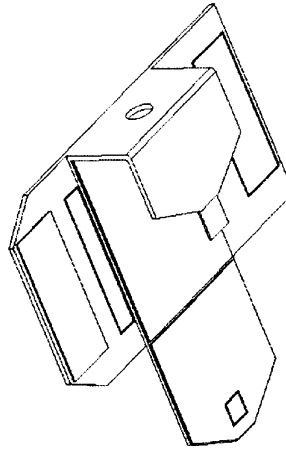
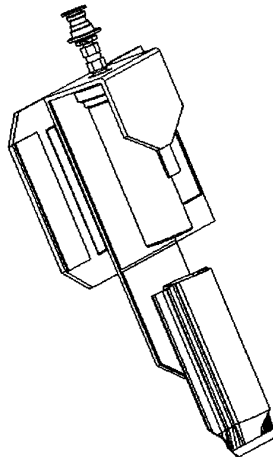

Figure 10-2
Figure 10-5
Chill Can Koozie, figure 10-2
4. Slip Chill Can into Koozie. Chill Can QD should pass thru hole at top of Koozie (figure 10-2), as shown in figure 10-5